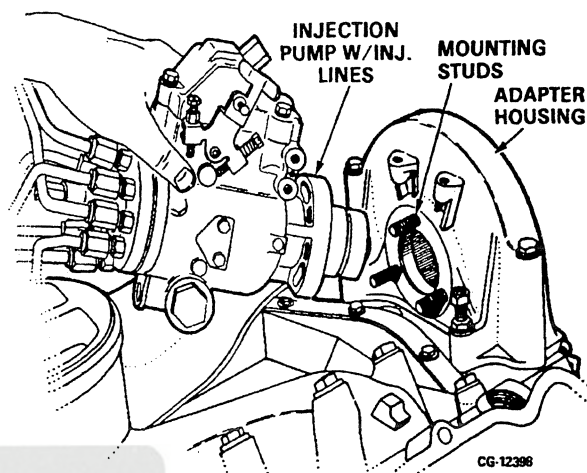

Figure 9.29. Injection Pump Removal
9. Lift injection pump with high pressure lines from the mounting studs on the adapter housing. Refer to Figure 9.29. Install protective caps on the high pressure lines and nozzles.